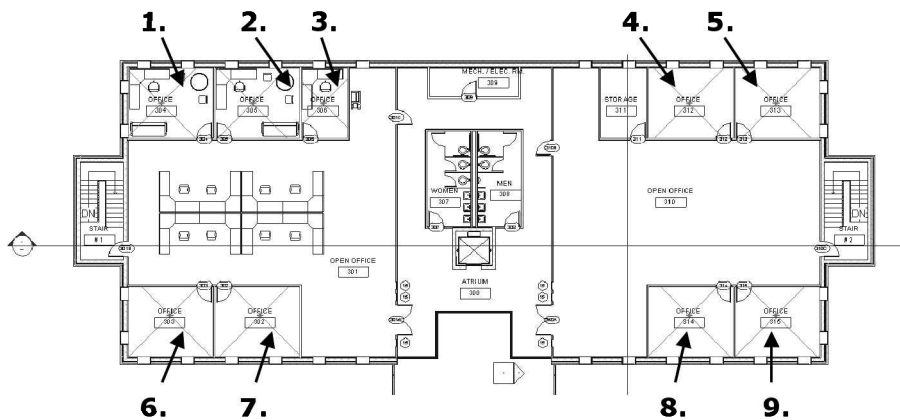

FIGURE 12-3.5 Level 3 – selected room
- In the Level 3 plan view, select the *Rooms* (not the room tags) for all private offices – 9 total (Figure 12-3.5).